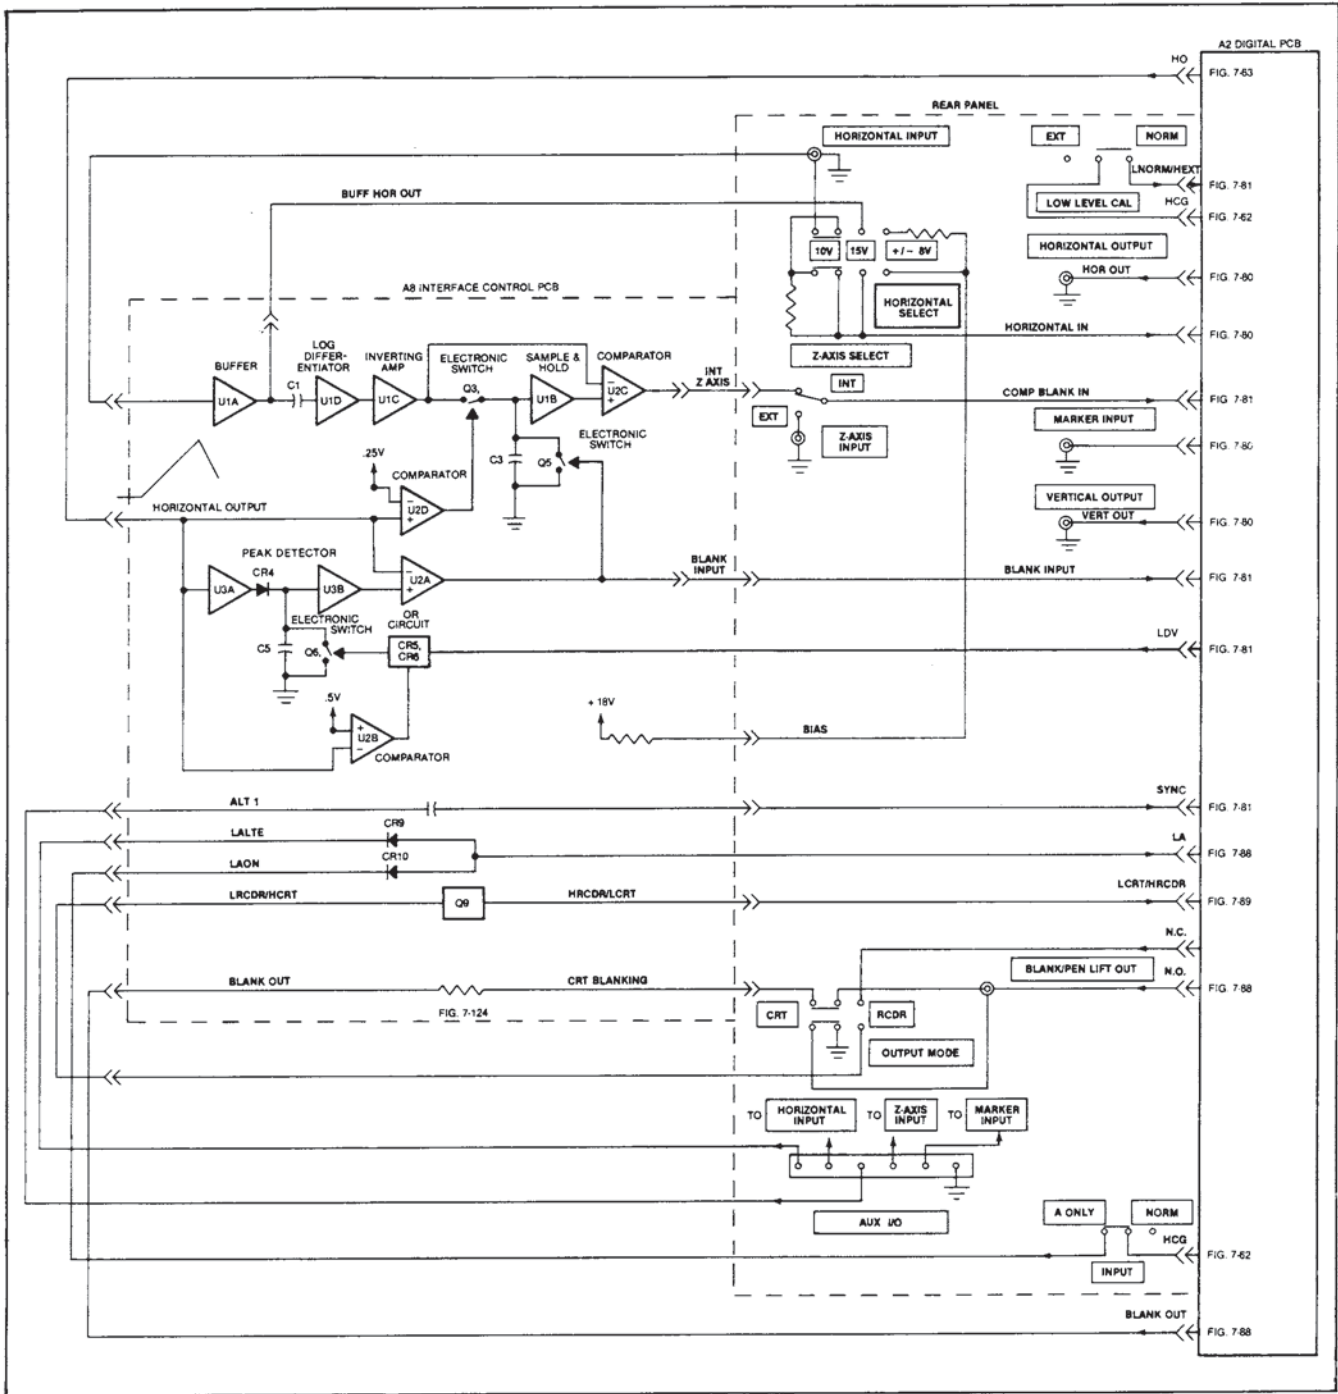

Figure 7-123. Interface Control (A8) PCB and Rear Panel Block Diagram
This circuit generates blanking signals for the 560A Digital board circuitry. As shown in Figure 7-123, the blanking circuitry consists of Peak Detector U3A, U3B; Comparator U2A; Comparator U2B; Electronic Switch Q6; OR Circuit CR5, CR6; and C5.
As shown in Figure 7-123, the input to the blanking circuitry is the sweep ramp from the Digital board, which is sent over the HO and HORIZONTAL OUTPUT lines. This ramp is applied to four places: (1) Peak Detector U3A, U3B; (2) Comparator U2A; (3) Comparator U2B; and (4) Comparator U2D. Refer to paragraph 7-11.1.
As shown in Figure 7-123, when a sweep generator with alternate-sweep capability (such as the WILTRON 6600A Series Programmable Sweep Generator) is connected to the rear panel AUX I/O connector, it sends out--among other signals described in paragraph 7-12.2--two alternate-sweep control signals: Alternate Sweep and Alternate 1.
The rear panel switches are described below. See Figure 7-123.
The rear panel connectors are listed below. See Figure 7-123.